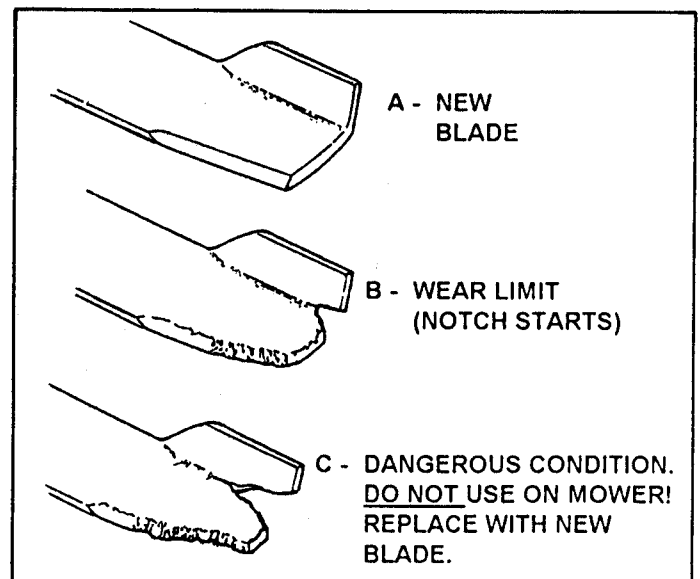

FIGURE 36
Check blades after each use for signs of excessive wear and damage. See Figure 36 for blade wear limits.
- Clean and inspect each blade for excessive wear and damage. Refer to Figure 36 for blade wear limits.